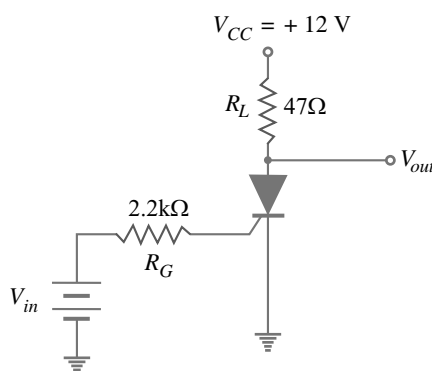

Fig. 18.7
**Example 18.5.** The SCR of Fig. 18.7 has  $V_{GT} = 0.7 \text{ V}$ ,  $I_{GT} = 2 \text{ mA}$  and  $I_H = 2 \text{ mA}$ . What is the output voltage when the SCR is off? What is the input voltage that triggers the SCR? If  $V_{CC}$  is decreased until the SCR opens, what is the value of  $V_{CC}$ ?